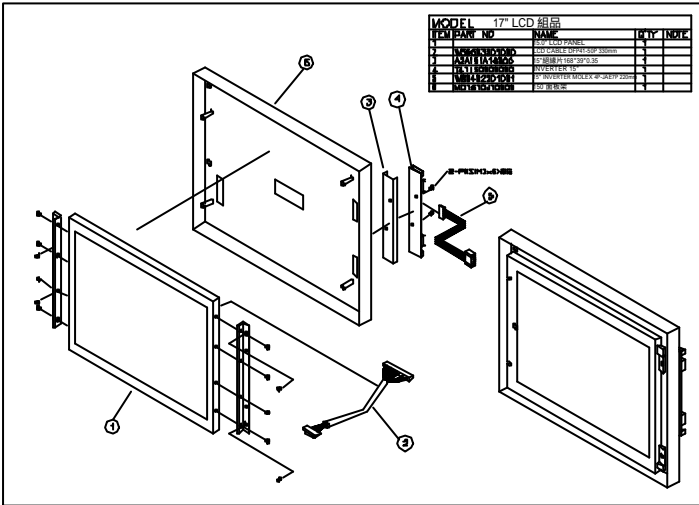

FIGURE 5-11: **ODYSSE 170** LCD MODULE ASSEMBLY
1. Refer to Figure 5-11. The standard LCD used in ODYSSE 170 is 17.0" 48-bit LVDS CHI MEI M170E5-L01 or its equivalent.
3. The LCD cable (4) is a 35cm JAE FI X30M to DF11-30 cable. Insert the 30-pin end into the opening at the rear side of the LCD holder and have it firmly plugged to the 30-pin connector at the rear side of the LCD panel. The DF11-30 end is for later connection to the motherboard's **LCD1**.
4. Attach the insulator (6) to the inverter (7).
5. The inverter cable (8) for ODYSSE 170 is a 7-pin to 4-pin wire with wafer connectors at both sides. Connect the 7-pin end to the inverter first. The other end is for later connection to the **INV1** on the motherboard.